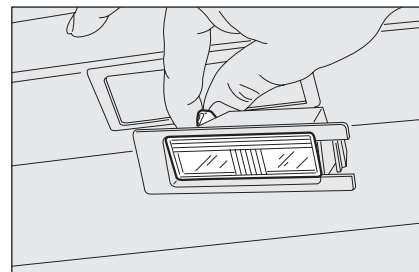

fig. 28
- change the bulb **fig. 28** releasing it from the side contacts and making sure the new bulb is correctly fastened between the contacts;